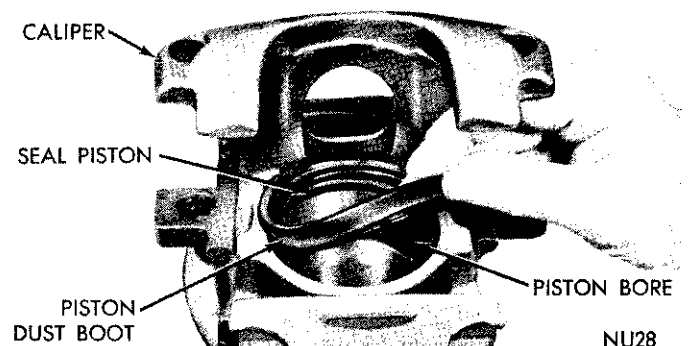

Fig. 11—Removing or Installing Piston Dust Boot
(2) Remove dust boot. (Fig. 11).